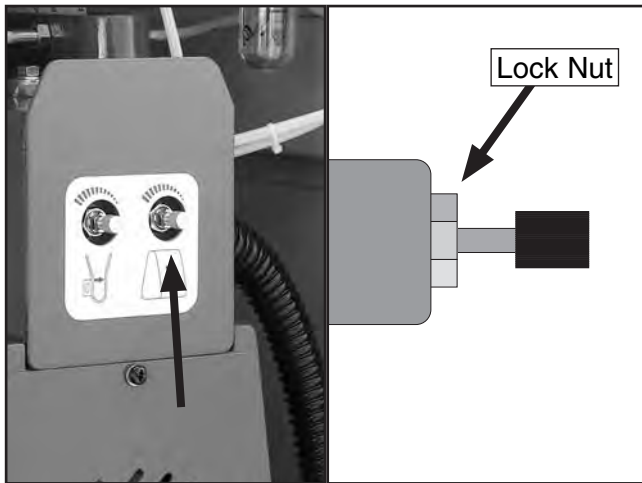

Figure 28. Speed control adjustment knob.
1. Loosen the lock nut on the speed control adjustment knob (**Figure 28**).